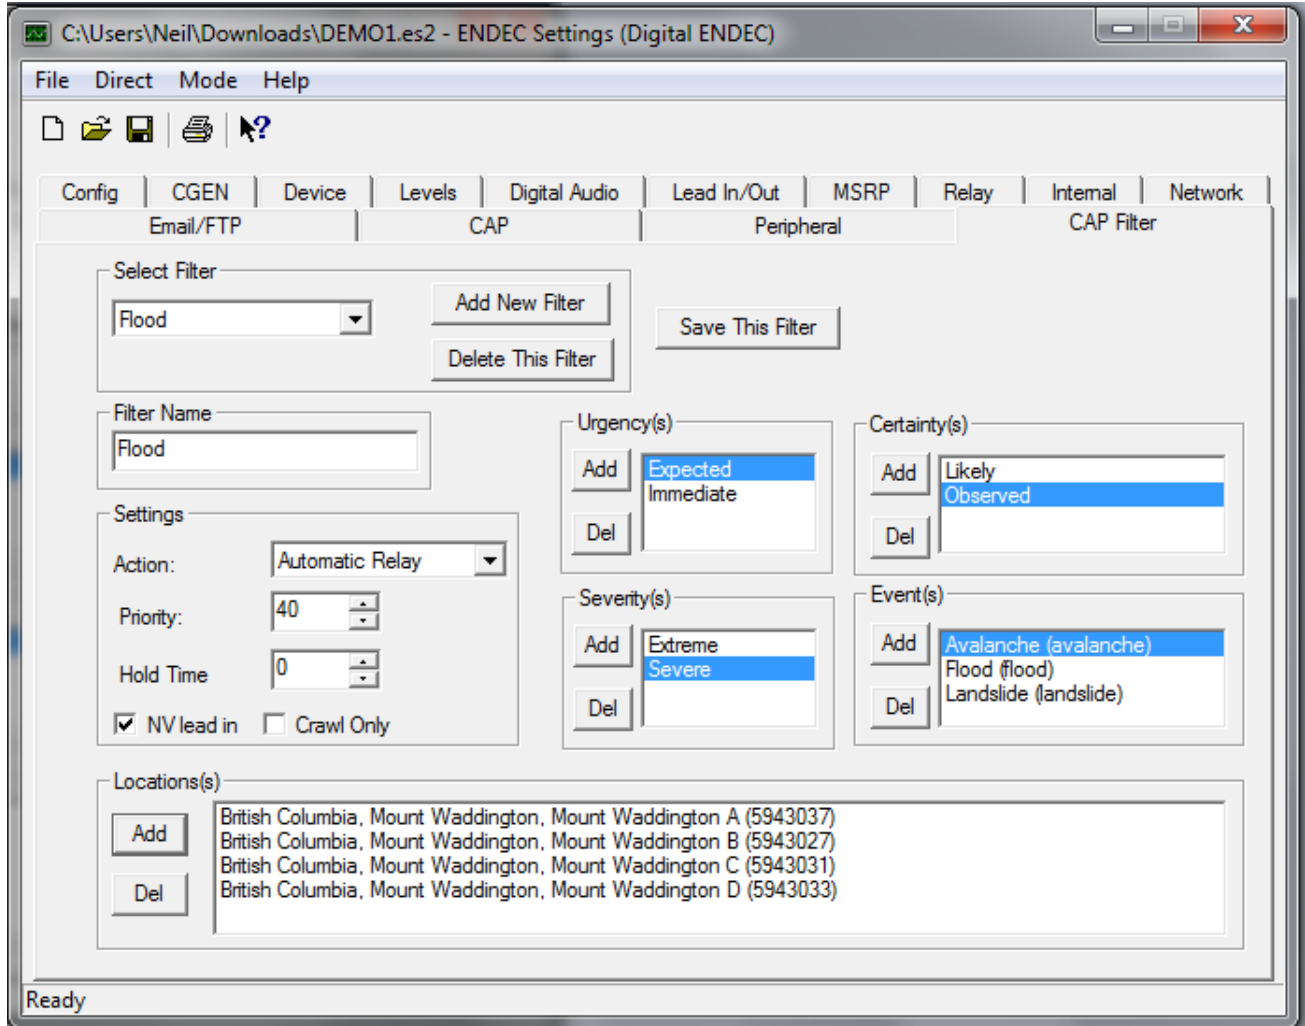

Figure 14.
- b. The example in Figure 14 is for an optional non-BI alert filter which will allow the Endec to automatically broadcast alerts for the specified area which are for Avalanche, Flood, or Landslide.